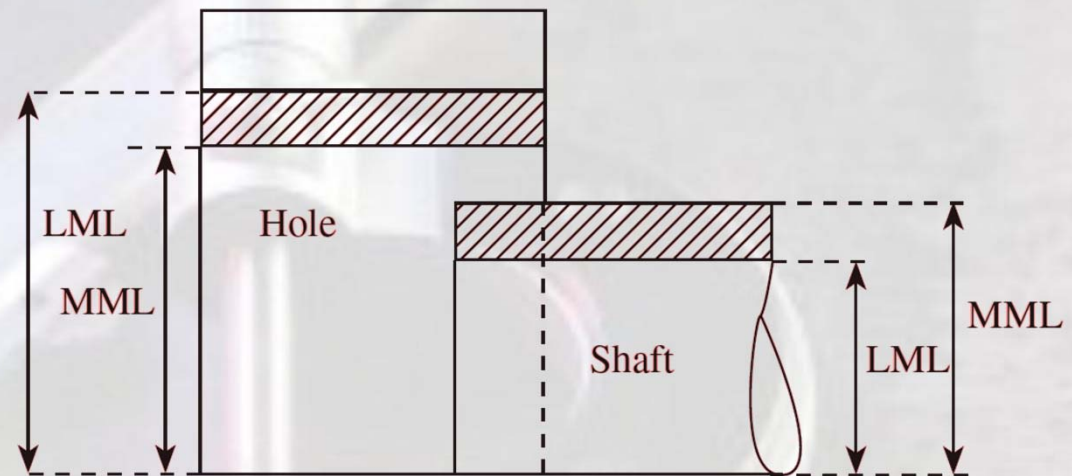

Fig. 3.8 MML and LML
- ✓ The maximum and minimum metal conditions are shown in Fig. 3.8